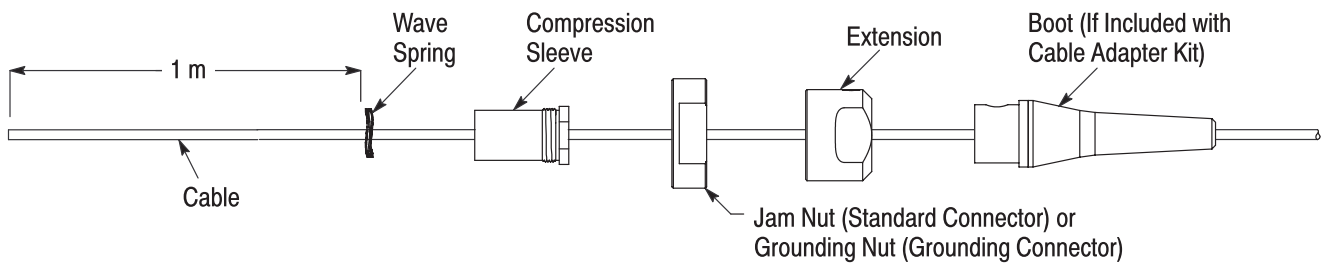

Figure 2
1. Slide the components shown in Figure 2 onto the cable allowing 1 m at the end of the cable for stripping the cable. Make sure to orient each component as shown.